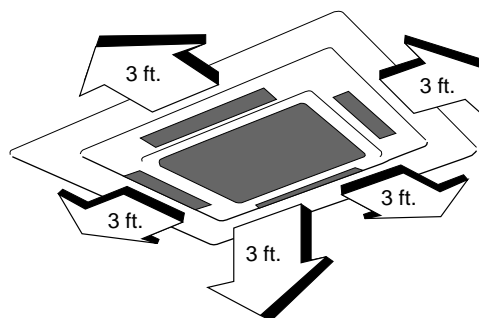

Fig. 2-1
- allow room for operation and maintenance as well as unrestricted air flow around the unit. (Fig. 2-1)